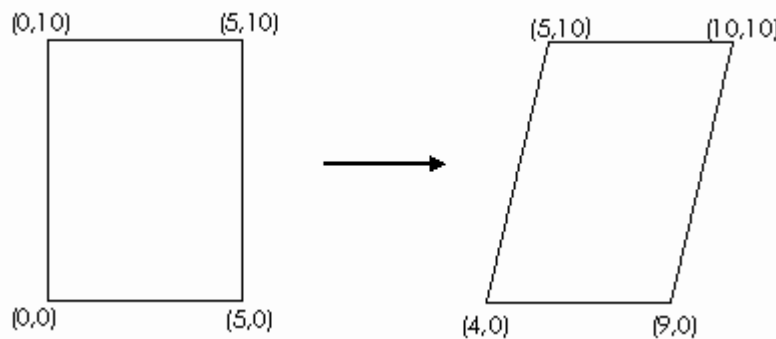

Figure: 1
2. Deformation of a finite element is shown in Figure 1.